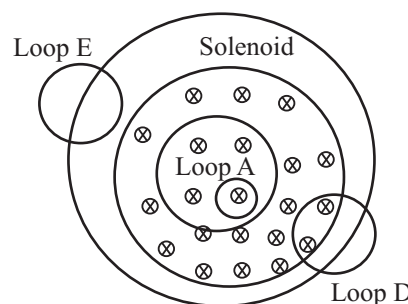

Fig. 19.7
- A cross-section of an ideal solenoid is shown in Fig.19.7. The magnitude of a uniform magnetic field is increasing inside the solenoid and $\mathbf{B} = 0$ outside the solenoid. which conducting loops is there an induced current? What is the sense of the current in each case?